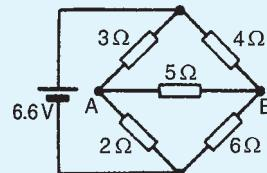

Figure 13.52
5. For the bridge network shown in Fig. 13.52, find the current in the 5Ω resistor, and its direction, by using Thévenin's theorem.